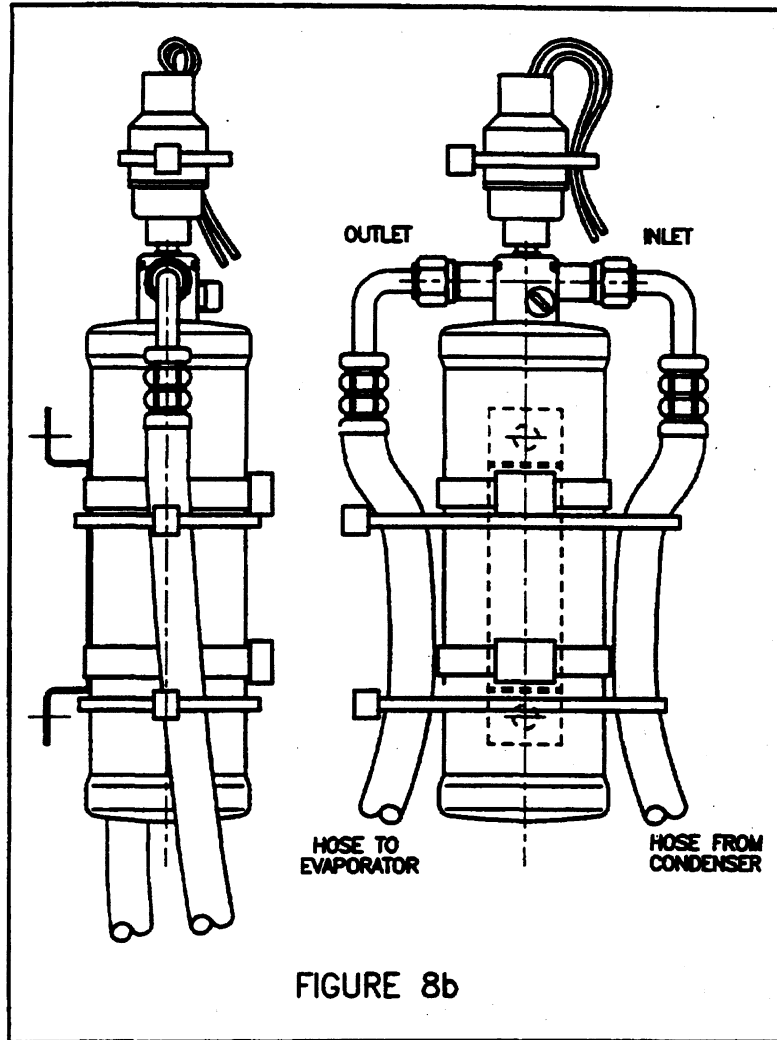

FIGURE 8b
- 4) Attach refrigerant hoses to rec./drier (see Fig. 8b)
- 5) Secure binary wiring to side of binary with (1) 8" tie wrap (see Fig. 8b).
- 6) Secure refrigerant hoses to receiver/drier using (2) 15" tie wraps (see Fig. 8b).
1. Install binary wire harness assembly (RD-5-6689-0) onto binary switch located on top of receiver/drier and secure with tie wrap. See Figure 8B.
9. Insert relay connector on wire harness RD-3-5986-0 onto relay (RD-5-4417-0). Using (1) M6 x 1.00 screw and (1) M6 lockwasher, fasten relay on interior of electronic control box near cab wall. Use existing M6 weldnut in forward section.